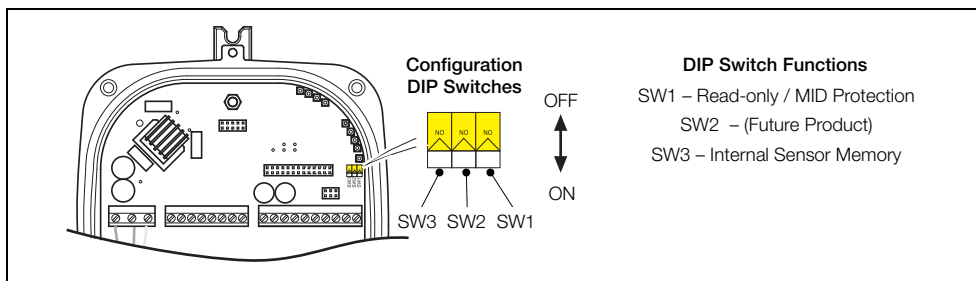

Fig. 3.20 Configuration DIP Switches
4. For high integrity / security installations, set DIP switch SW1 to the 'ON' (Read-only) position – see Fig. 3.20, page 22.
5. Align the transmitter cover with the housing and tighten the four cover screws (C) carefully.
6. For flowmeters ordered with the MID option or high integrity / security installations, it is a legal requirement that at the end of installation the flowmeter is sealed to prevent unauthorized modification or operation of the flowmeter. A suitable anti-tamper seal must be fitted to the security feature (D), such that in the event of unauthorized tampering, it is clearly visible if the fitted legal metrology seals have been broken.
**Note.** If this screen is displayed on an integral transmitter, check that DIP switch SW3 is in the 'ON' position (refer to Fig. 3.20, page 22).
To correct this condition, set DIP switch SW3 to the 'OFF' position (refer to Fig. 3.20, page 22).